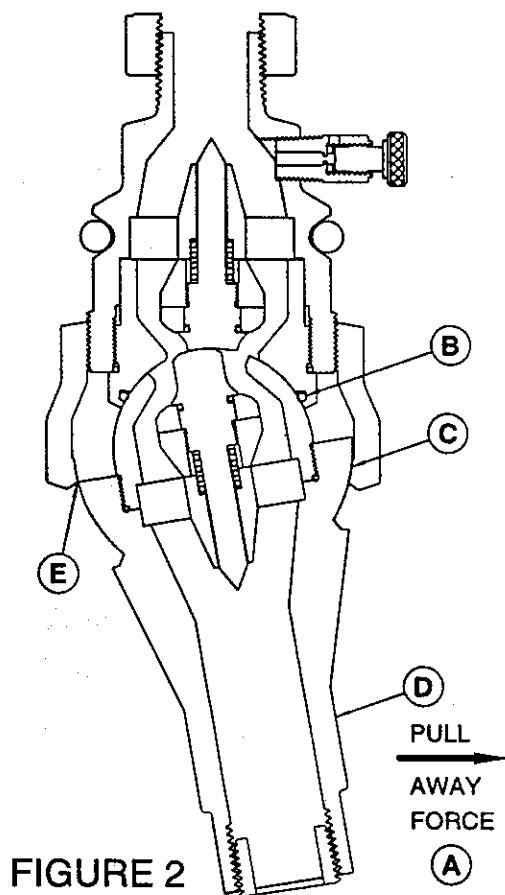

FIGURE 2
THE MECHANICAL OPERATION OF THE TRIPOD DURING RELEASE IS SHOWN IN FIGURE 2. A RELEASE IS INITIATED WHEN A HORIZONTAL FORCE AT POINT (A) (DUE TO A PULL AWAY) OVERCOMES THE FRICTIONAL FORCES AT BOTH THE INNER AND OUTER BALL SOCKETS (B) AND (C) RESPECTIVELY. THE AMOUNT OF FRICTIONAL FORCE PRESENT WAS DETERMINED BY THE TIGHTNESS OF THE CATCH NUT.